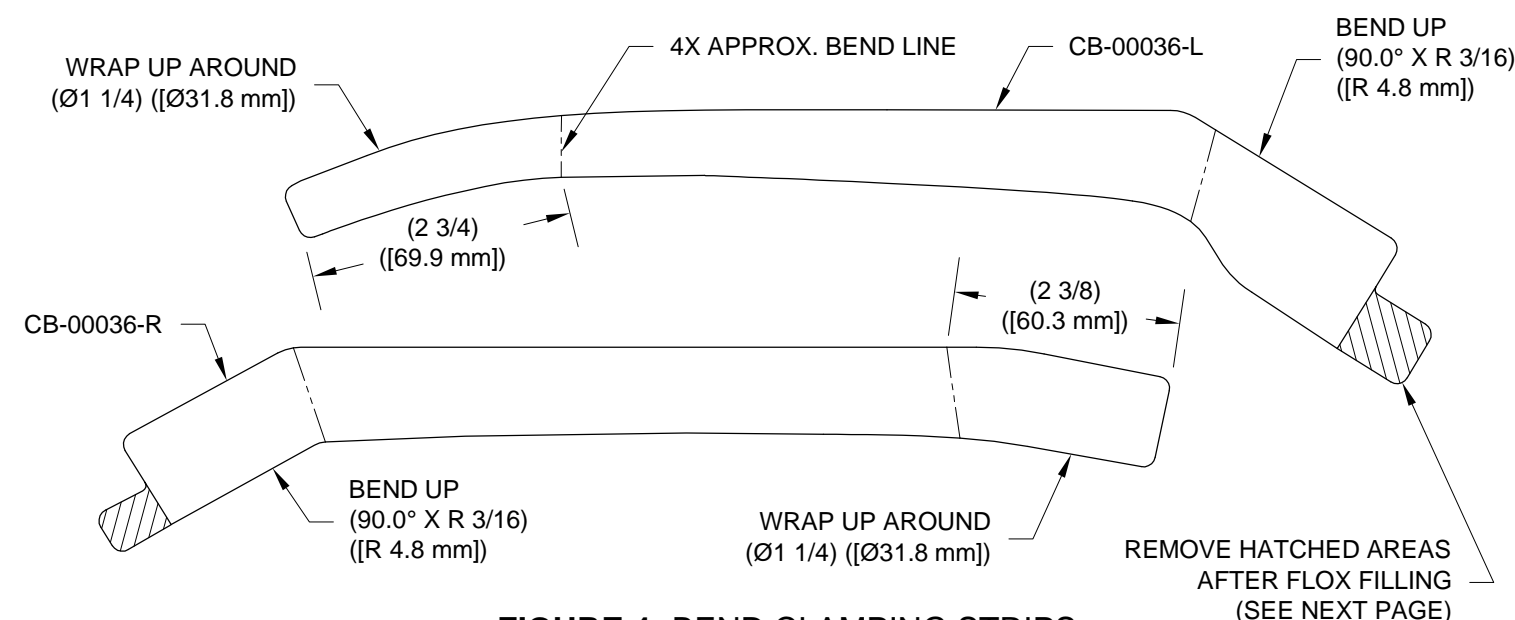
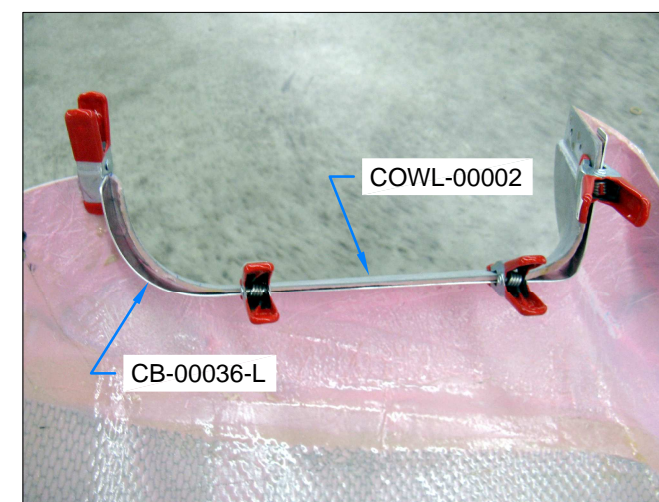
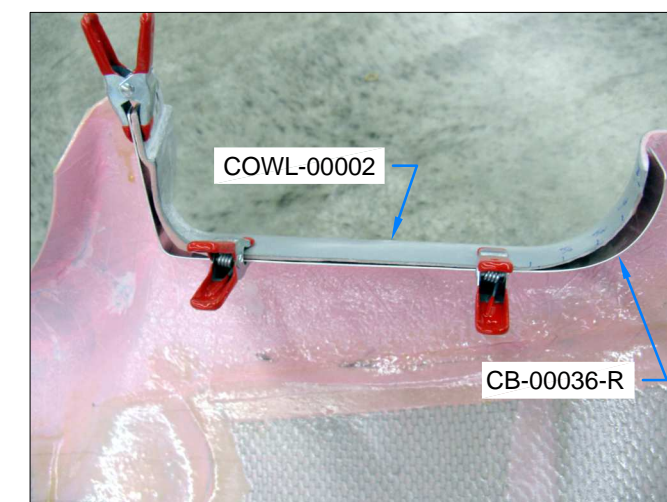

FIGURE 4: BEND CLAMPING STRIPS
FIGURE 5: CLAMPING STRIP - LEFT
FIGURE 6: CLAMPING STRIP - RIGHT
Step 5: Hand-form the CB-00036-L & -R Clamping Strips to match the shape of the bottom cowl inlets as shown in Figure 4, Figure 5, and Figure 6.
Step 9: Clamp the clamping strips to the bottom cowl as shown in Figure 5 and Figure 6.